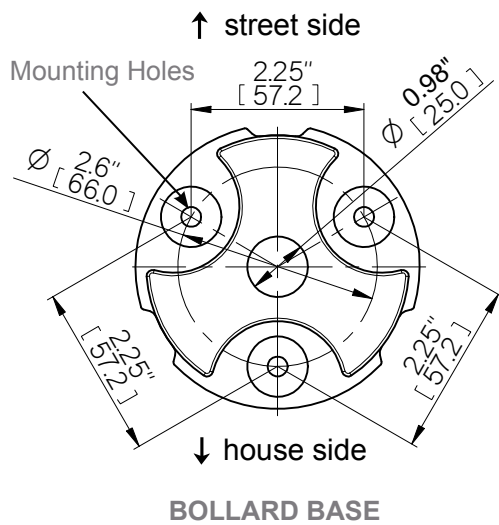

Figure 1
8. Slide the Bollard over on Bollard Base. Be sure to check the LED position on the Bollard. Replace the Set Screws (3) to secure the Bollard to the Bollard Base. See Figure 1 and 6.